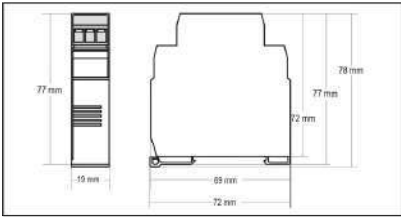

Fig. 03 – Transmitter dimensions
The transmitter is intended for DIN rail mounting. Its drawing is presented in Fig. 03.
- Housing:** ABS plastic. Dimensions: Refer to Fig. 03.